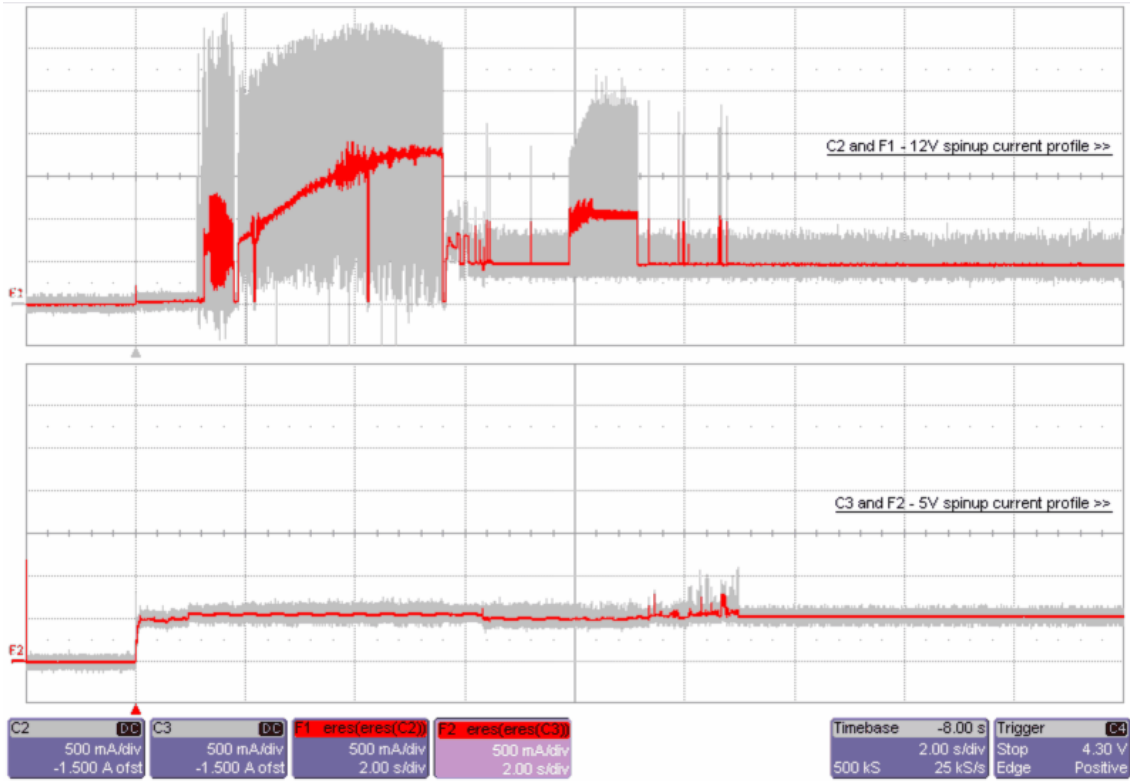

Figure 1. Typical ST360002SS drive +5V and +12V current profiles
[3] See +12V current profile in Figure 1.
- [3] See +12V current profile in Figure 1.
The +12V and +5V current profiles are shown below in figure 1.